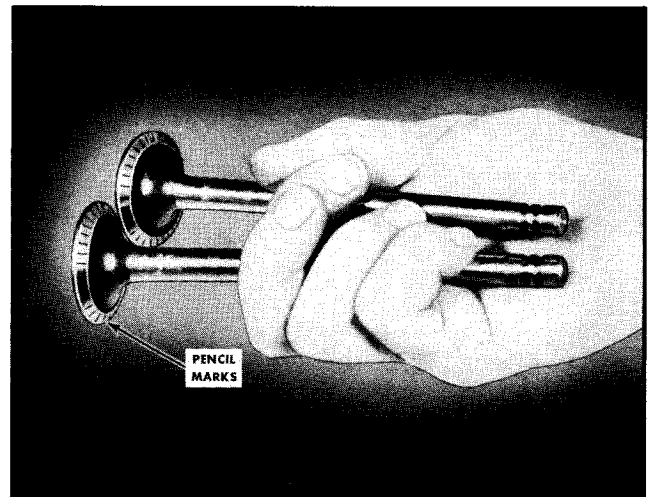

Fig. 3-18. Pencil marks on valves
7. Check valve in a finish reamed guide and against a newly ground valve seat face. Pencil mark valve as shown in Fig. 3-18, drop into position and rotate 10 degrees.